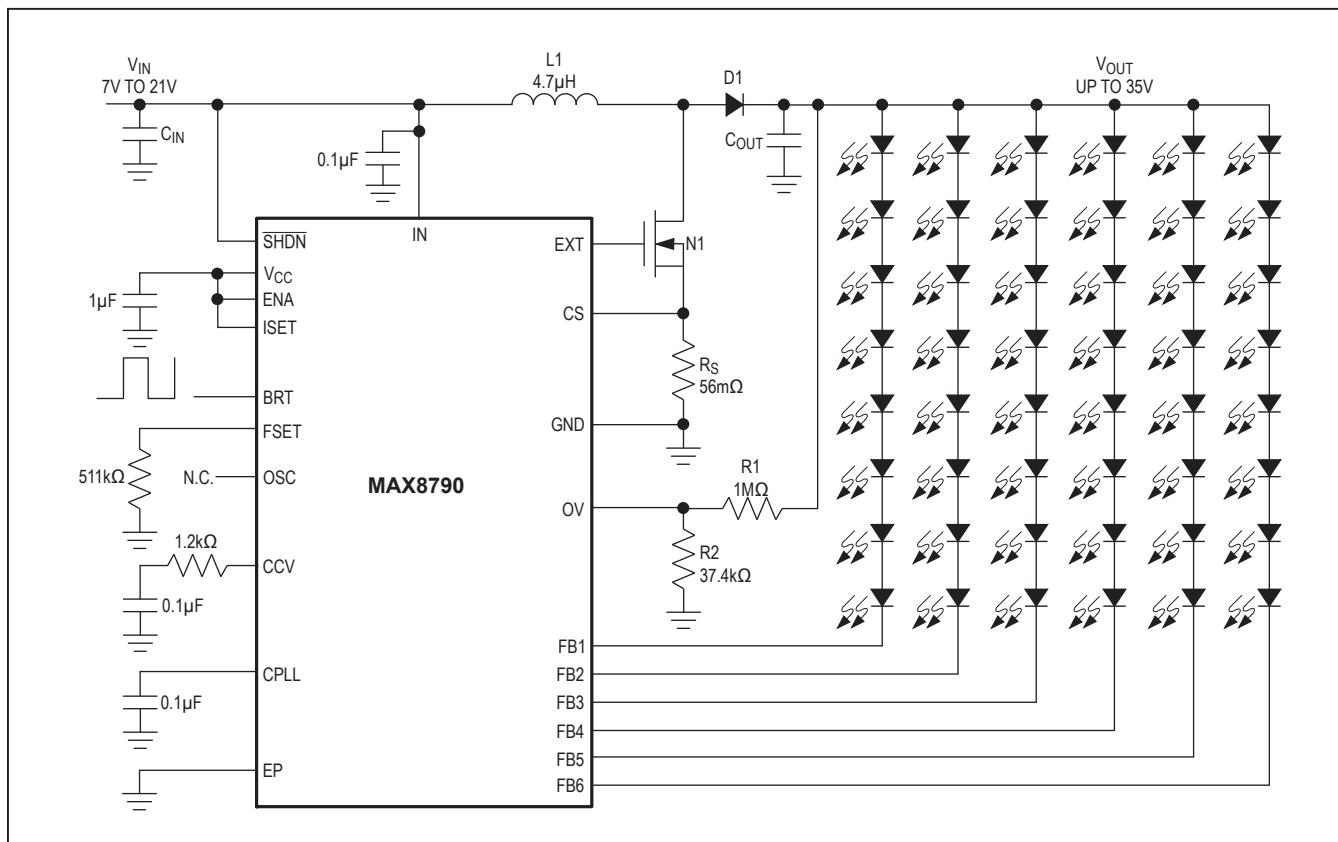

Figure 1. Typical Operating Circuit
(Circuit of Figure 1. $V_{IN} = 12V$, $V_{SHDN} = V_{IN}$, $CCV = 0.1\mu F$, $T_A = -40^\circ C$ to $+85^\circ C$, unless otherwise noted.) (Note 2)
To protect the step-up converter when the load is open, or the output voltage becomes excessive for any reason, the MAX8790 features a dedicated overvoltage feedback input (OV). The OV pin is connected to the center tap of a resistive voltage-divider from the highvoltage output (see Figure 1). When the MAX8790 is powered up, if none of the LED strings on FB1–FB6 are connected to the step-up converter output, the step-up converter regulates the output voltage to $V_{OUT} = 1.23V(1 + R1 / R2)$. When V_{OV} exceeds 1.23V, a comparator turns off N1. The step-up converter switch is reenabled after the output voltage drops below the protection threshold.